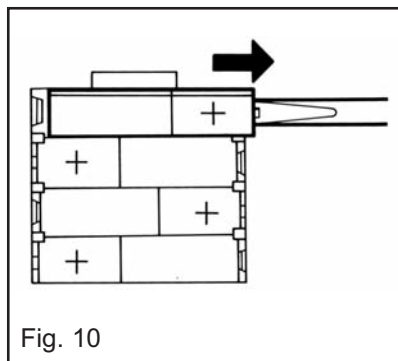

Fig. 10
- Carefully lever out the batteries commencing with the bottom one first pushing and pulling out on the **positive (+) end only** (Fig. 10).